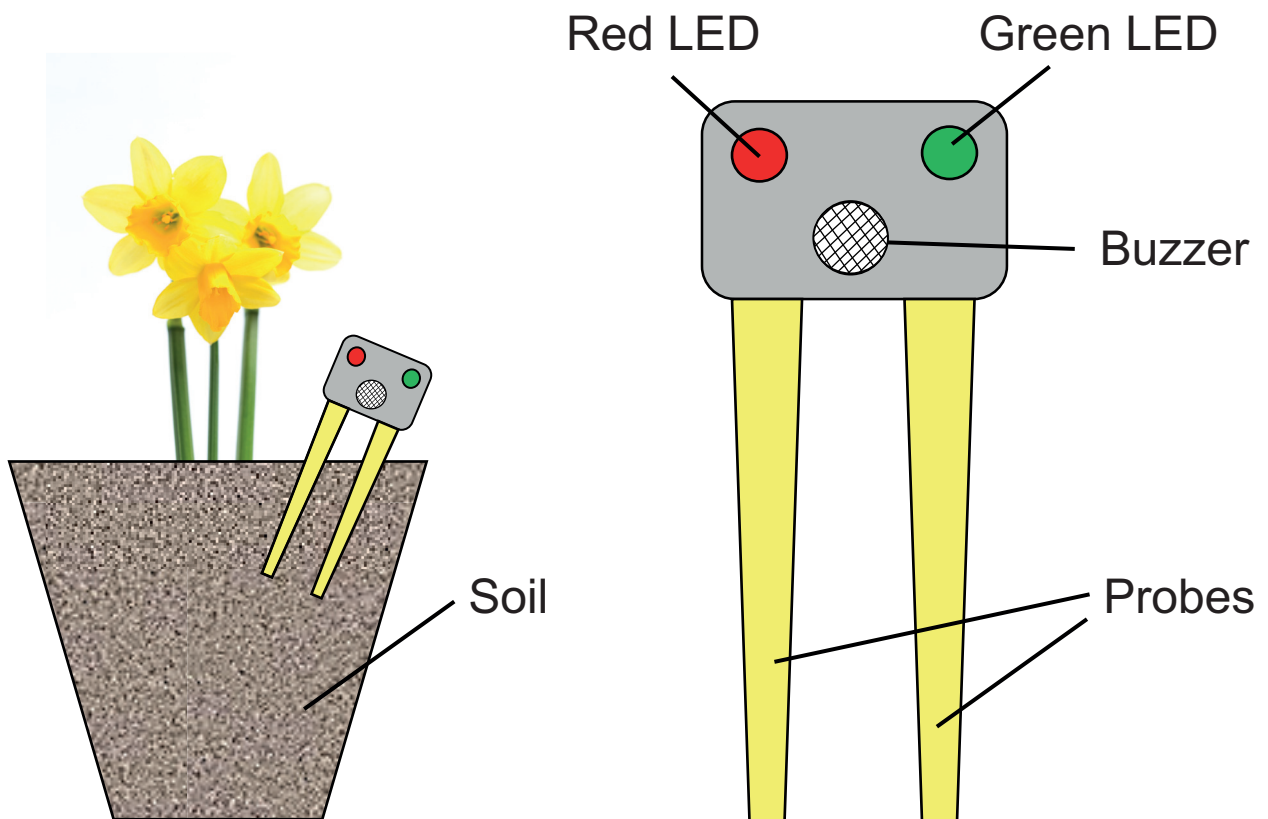

Fig. 9
- 7 A moisture sensor may be used to detect the moisture of soil around a flower. **Fig. 9** shows a sketch of an electronic moisture sensor and how it may be used.